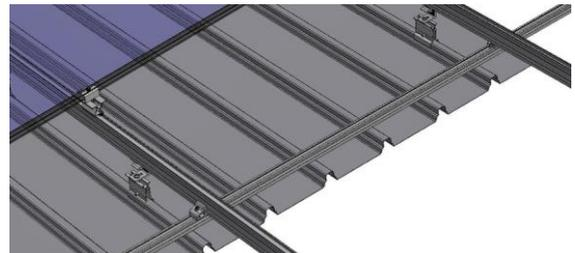

Fig 4.1.1A: Screw fixing and shading distances
- I. The FixZ Pro Rails for the row of panels are braced with Pro35 rails running perpendicular to the FixZ Pro Rails as shown in Figure 4.1.1A.